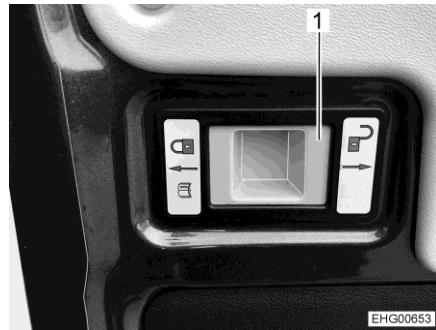

Fig. 11 Handle to release the limitation
- Push the handle (Fig. 11,1) to the right ("open padlock" symbol), hold the rear door and continue opening carefully.
- ▷ When the rear doors are closed again, limit the opening angle again. In order to do this, push the handle (Fig. 11,1) to the left ("locked padlock" symbol).